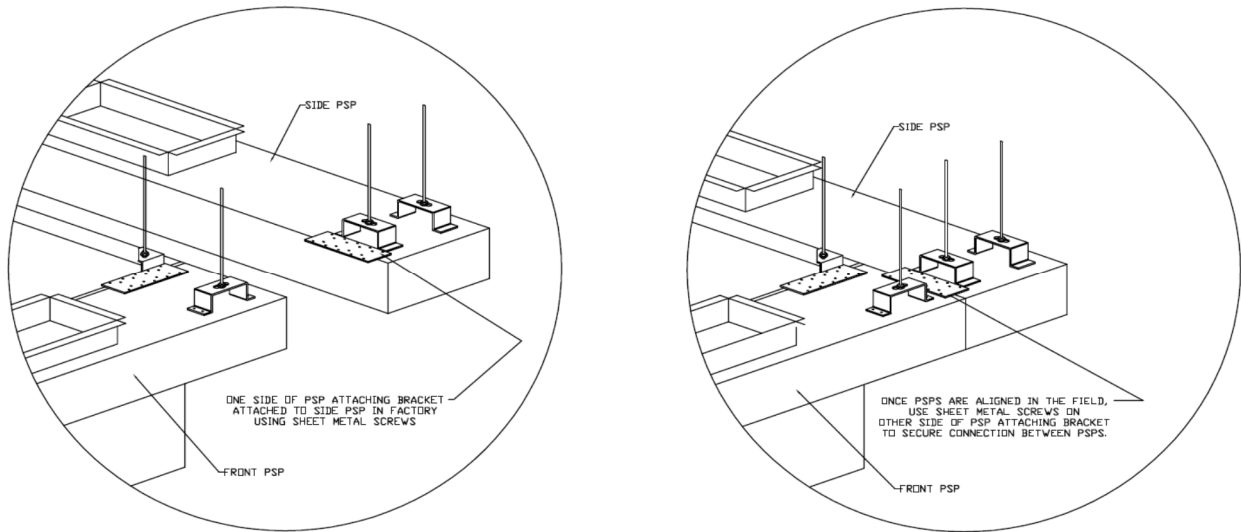

Figure 11
10. Where applicable, use sheet metal screws to secure the PSP attaching bracket on top of side PSPs to front PSP. **See Figure 11.**